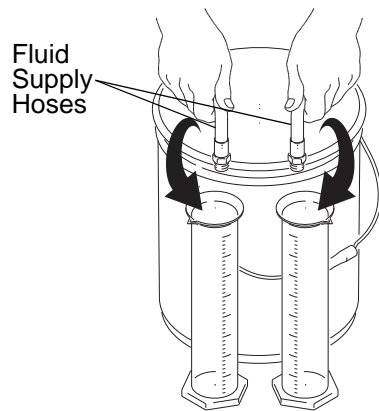

FIG. 5 Checking Mix Ratio
4. Place the hose ends into a waste container. Set two graduated cylinders of the same size next to the waste container. See FIG. 5.
Be sure to connect the hoses back to the same valves they had originally been connected to. The mix manifold could be damaged by reversing them. See FIG. 5.